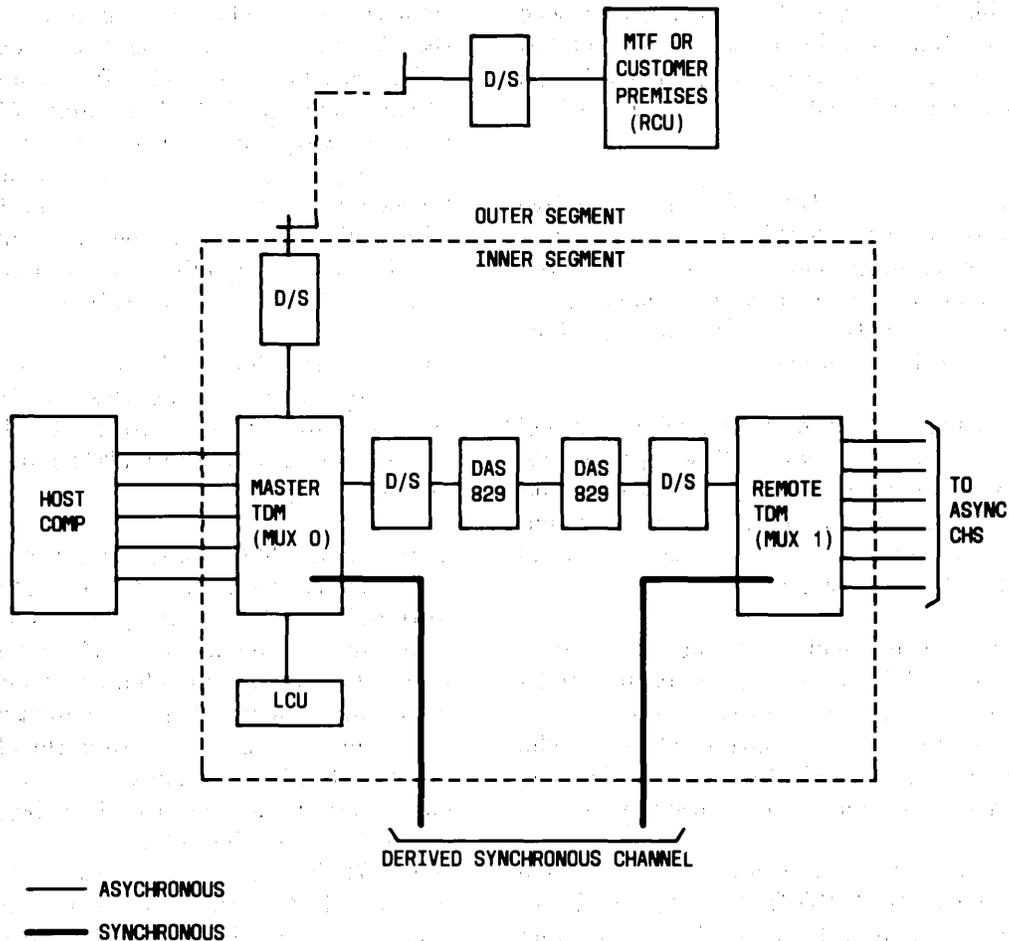

Fig. 3—Typical DMS Network
**3.09** In the RT mode, the control of the LCU function is transferred to the remote data control unit (referred to as RCU) located at a multiplexer test facility (MTF) or at a customer premises (Fig. 3).